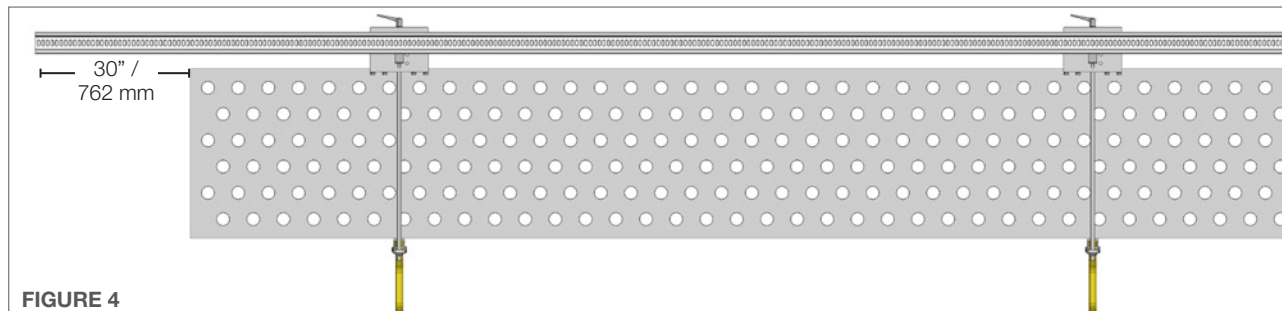

FIGURE 4
4. Position the **Horizontal Rail** so that it extends 30" (762 mm) beyond the tube bundle as shown in **(Figure 4)**. This is to allow the Carriage to travel far enough to reach the tubes located farthest to the left. Tighten the Clamps securing the rail to the Mounting Plates. **Horizontal Rail** longer than 150" (3810 mm) will require additional Horizontal Mounting Plate Clamps. spaced 75" (1905 mm) apart. Clamps Spacing: Max spacing between clamps = 72" (1828 mm) Max spacing from end of rail = 50" (1270 mm)